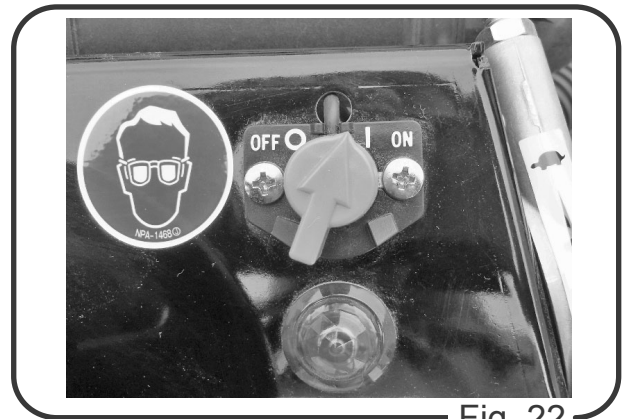

Fig. 22
2. Turn the stop switch to ON (I) side.(Fig. 22)